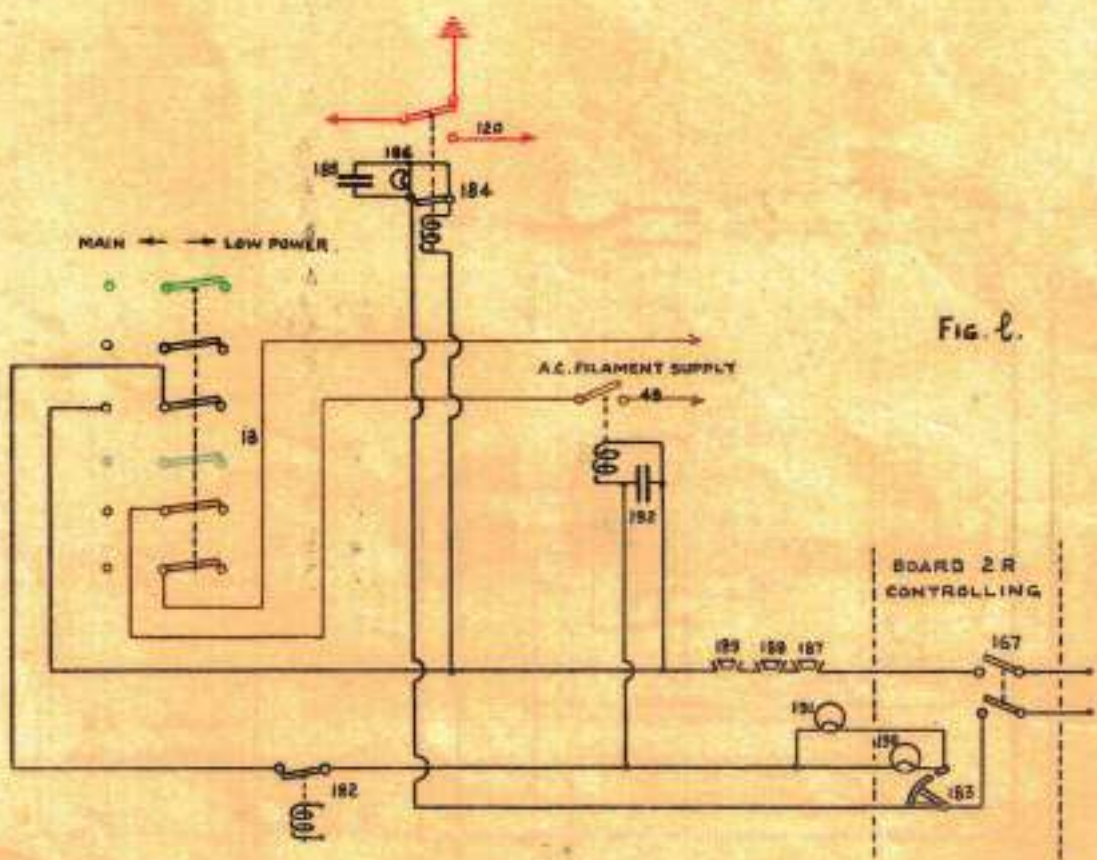

Fig. 1.
FIG. 1 a.
Rectifier Switch Circuit. (figure 1.) This circuit is supplied from the switch (183), marked "Main Power Filaments", which is on Board 2R Controlling. The first movement of the switch (183) connects the positive supply across the single pole break (184) and the bottom of the rectifier switch to the cage door switches (187)(188)(189). These cage door switches are connected in series (see figure j.) and if all safety doors are closed they complete the circuit to the common negative supply of the D.C. supply switch (187).
Filament Switch Circuit. (figure 1.) This circuit is connected in parallel with the rectifier switch circuit. The second movement of the switch (183) connects the supply through the lamp (191) and bottom of the filament switch to the cage door switches (187)(188)(189). These switches are connected in series, and, when closed, complete the circuit to the common negative of the D.C. supply switch (187). A  $2\frac{1}{2}$  c.p. lamp (190), fitted on the Board 2R Controlling, is connected in parallel with the bottom resistance lamp (191) as an indicating lamp. The condenser (192) is connected across the supply to the filament switch to prevent arcing when the switch (183), controlling the supply, is broken.